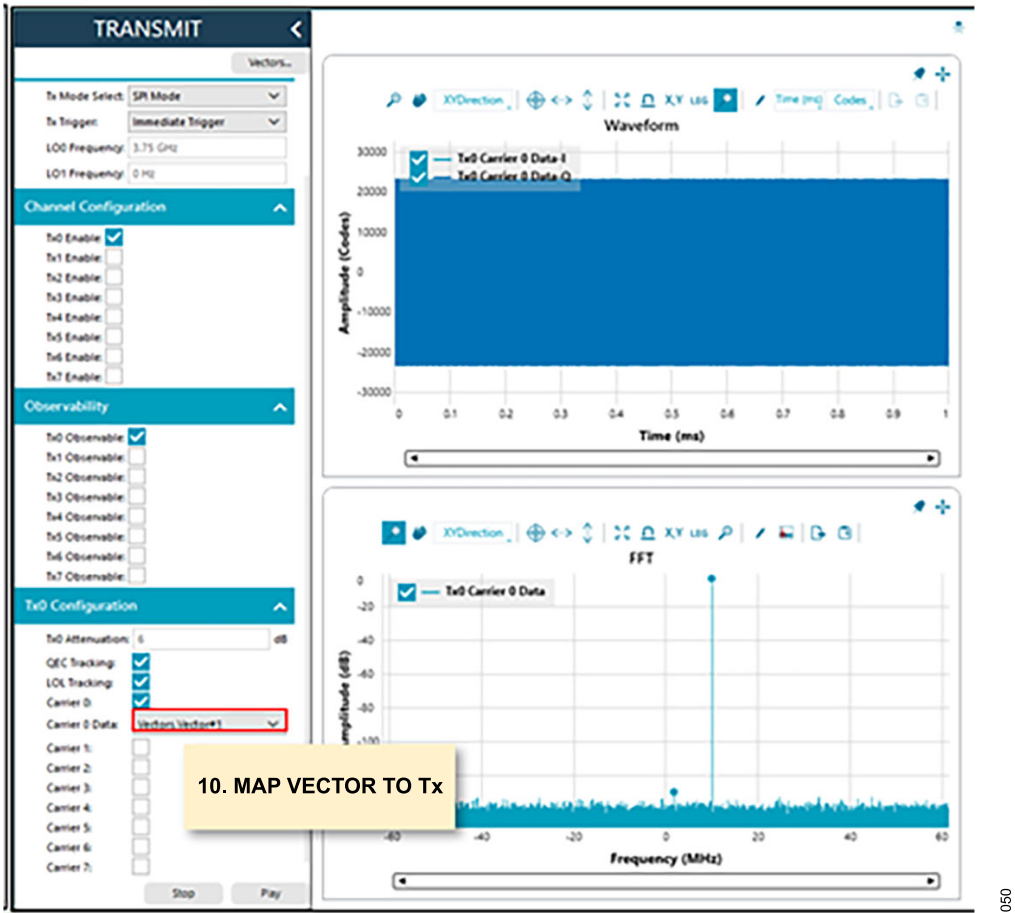
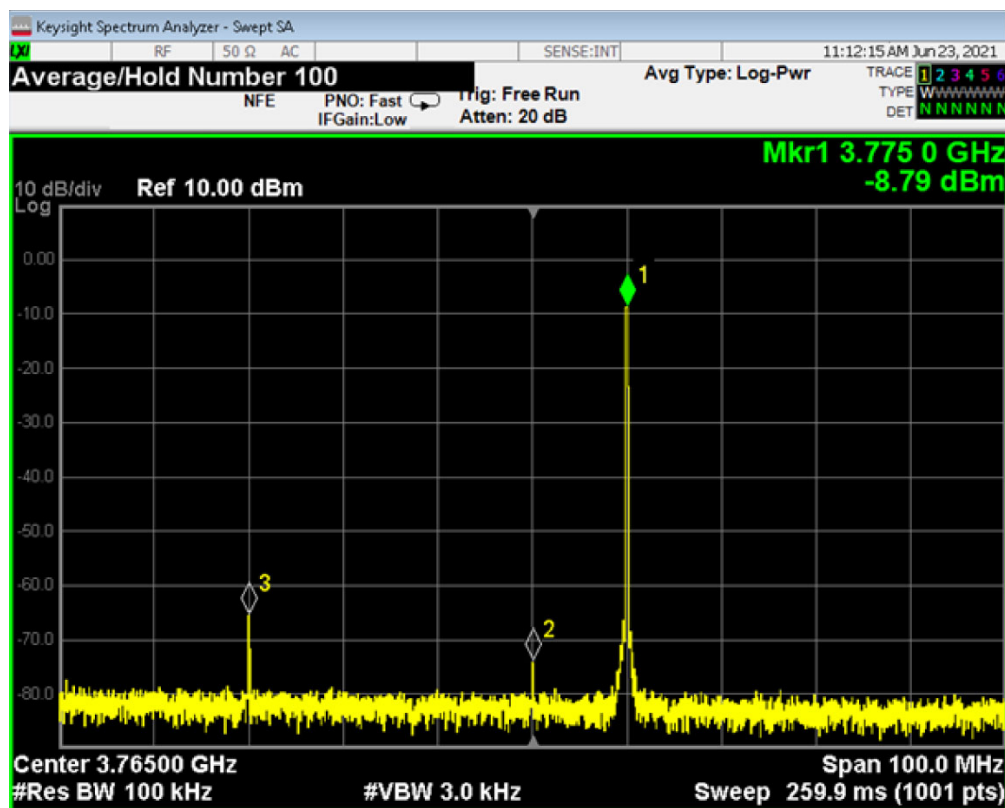

Figure 51. Tx Vector Mapping to Each Carrier
Figure 52. Tx0 Single Tone Spectrum as Captured by a Spectrum Analyzer
- ▶ For profiles with CDUC/CDDC enabled: user can map a specific vector to each carrier as shown in Figure 52.
13. **Play** transmitter data continuously over JESD as shown in Figure 51. This updates the waveform and fast Fourier transform (FFT) plots to preview the loaded vectors. The transmitter RF output can then be captured using a spectrum analyzer as shown in Figure 52.